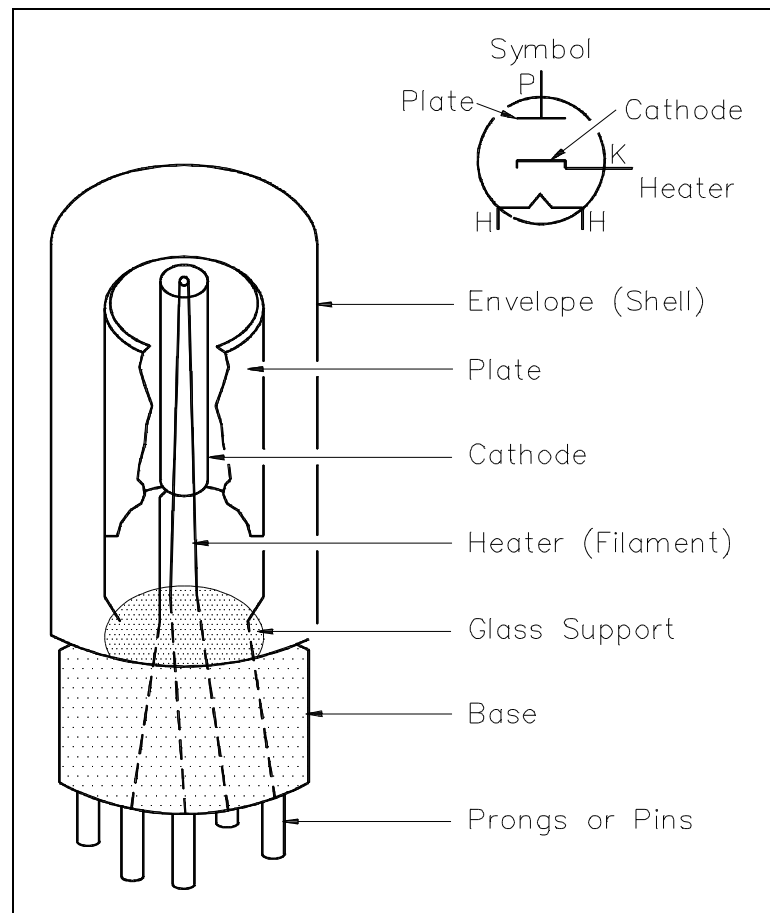

Figure 17 Vacuum Tube Diode
The simplest example of a thermionic device is a vacuum tube diode in which the only electrodes are the cathode and plate, or anode, as shown in Figure 17. The diode can be used to convert alternating current (AC) flow to a pulsating direct current (DC) flow.